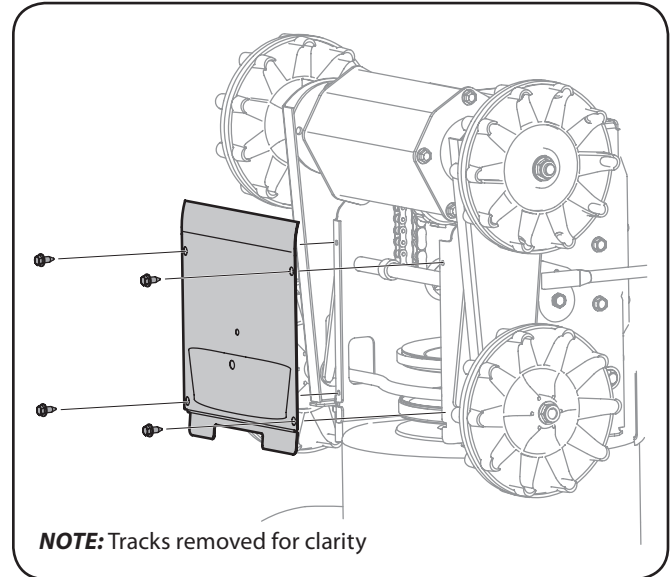

Figure 6-2
2. Remove the frame cover from the underside of the snow thrower by removing the self-tapping screws which secure it. Refer to Figure 6-2.